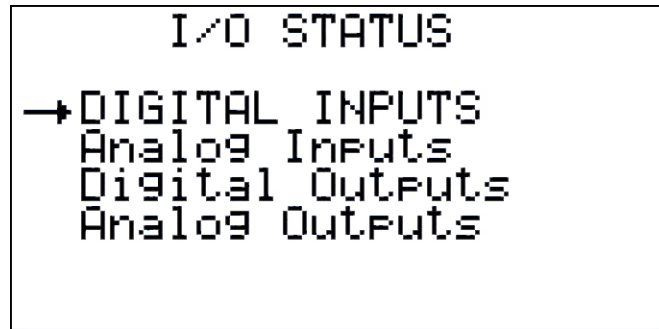

Figure 87
2.3.3.3 I/O Status (Figure 87)
Selecting I/O STATUS from the SERVICE MENU will display the I/O STATUS menu screen shown in Figure 87. From this screen the user can select DIGITAL INPUTS, ANALOG INPUTS, DIGITAL OUTPUTS, or ANALOG OUTPUTS.